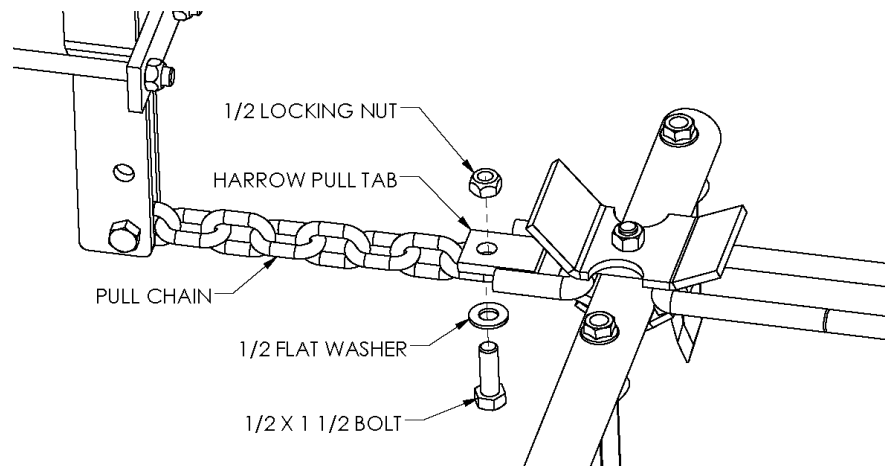

Figure 16
2. Bolt the pull chains to the front tabs on the harrow sections. Refer to Figure 16.
2. Bolt the pull chains to the front tabs on the front harrow sections. Refer to Figure 16. Use 1/2" x 1 1/2" bolts, flat washers, and locking nuts. The chains should be bolted to the bottom of the pull tabs.
2. Bolt the pull chains to the front tabs on the harrow sections. Refer to Figure 16. Use 1/2" x 1 1/2" bolts and locking hex nuts. The chains should be bolted to the bottom of the pull tabs.